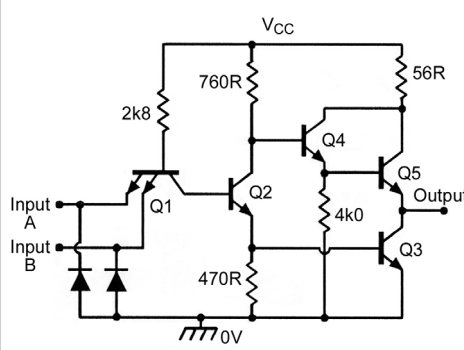

FIGURE 5. Circuit of a high-speed (H) TTL 74H00 two-input NAND gate.
High-Speed (H) TTL (now obsolete) — High-speed TTL is a modified version of the standard type, with its resistance values reduced to give an increase in speed at the expense of increased power consumption. Figure 5 shows the circuit of a 74H00 two-input NAND gate. Its power consumption is 22 mW, and its propagation delay is typically 6 nS.